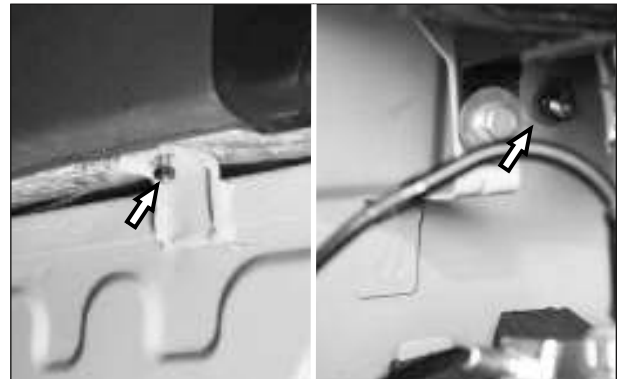

Fig. 5.102
- Loosen and remove 2 nos. Hexagonal nut M6 passenger bottom seat mounting. (Fig. 5.102)
- Loosen and remove 3 nos. Hexagonal nut M6 along with 1 no. Plain washer passenger top seat mounting. (Fig. 5.102)